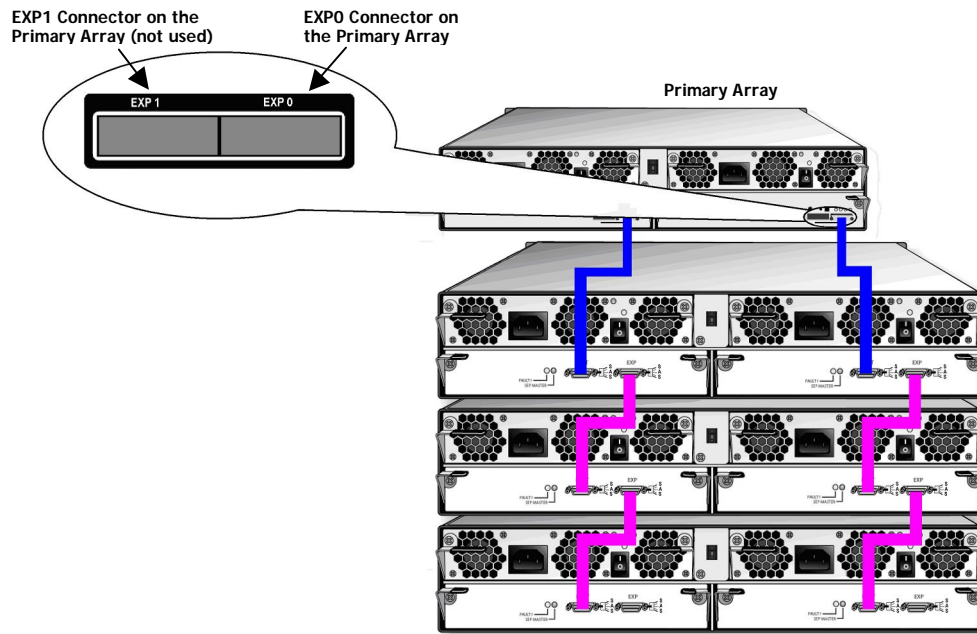

Figure 4-6. Connecting the DSN-5000-10 Expansion Arrays to the DSN-5110-10 Primary Array
To connect the first DSN-5000-10 expansion array to the DSN-5110-10 primary array, use the following procedure (and refer to Figure 4-6).
4. If your system is equipped with redundant controllers, repeat the above steps for the redundant controllers as shown in Figure 4-6.